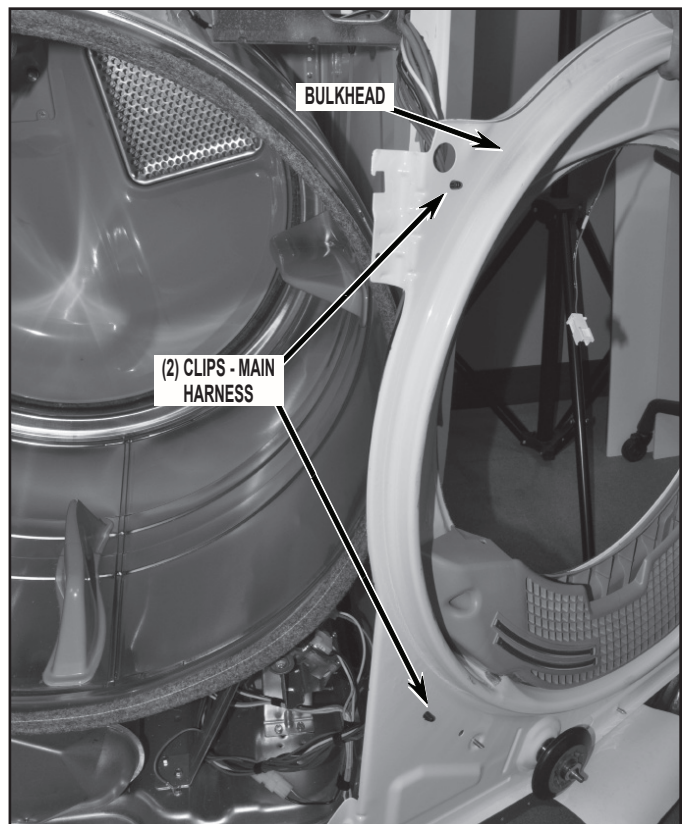

FIGURE 14
- Swing bulkhead assembly to side and remove two (2) harness clips by pinching ends with pliers to disconnect harness from bulkhead. See *Figure 14*.